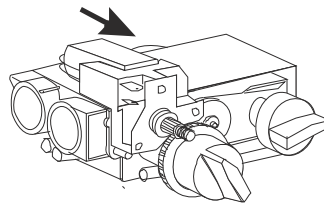
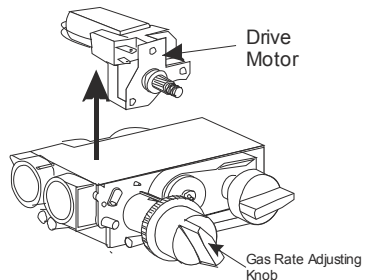

Figure 52
Figure 53
6. Turn the gas rate adjusting knob fully anticlockwise and gently manipulate the motor free from the valve (see note, **Figure 52** and **Figure 53**).